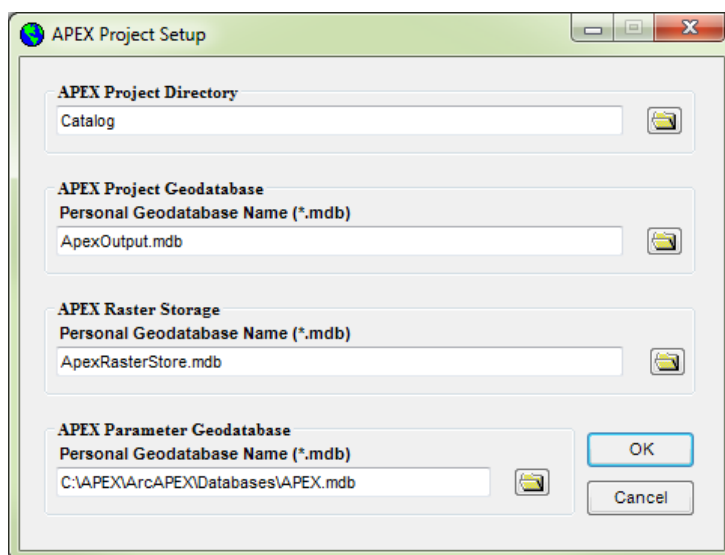

Figure 3.3 ArcAPEX project directory and database setup box
3. After choosing an appropriate response, the **APEX Project Setup** dialog box will appear (Figure 3.3). The dialog box will contain initial default values for an **APEX Project Directory**, **APEX Project Geodatabase**, **APEX Raster Storage**, and **APEX Parameters Geodatabase**.